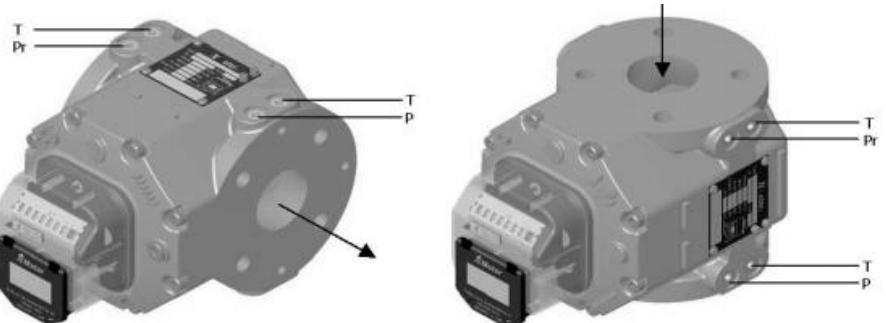

Figure 5 Flange to Flange: 171 mm
5.1 The outline structure of the meter is shown in Figure 5,
- 2) Check the flow direction, as indicated on the type plate. In case the flow direction is incorrect, the meter has to be replaced by one with correct flow direction. For Pr and T positions see figure 5 and 6.
- 8) The meter is shipped without oil in the reservoir. Fill the meter at the front side to the indicated level with the oil supplied (see fig. 5 and 6).